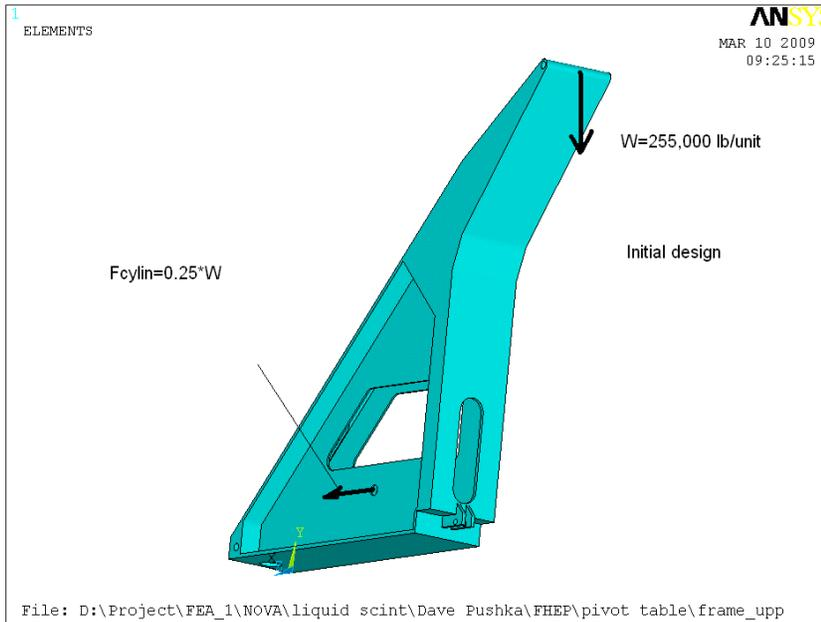
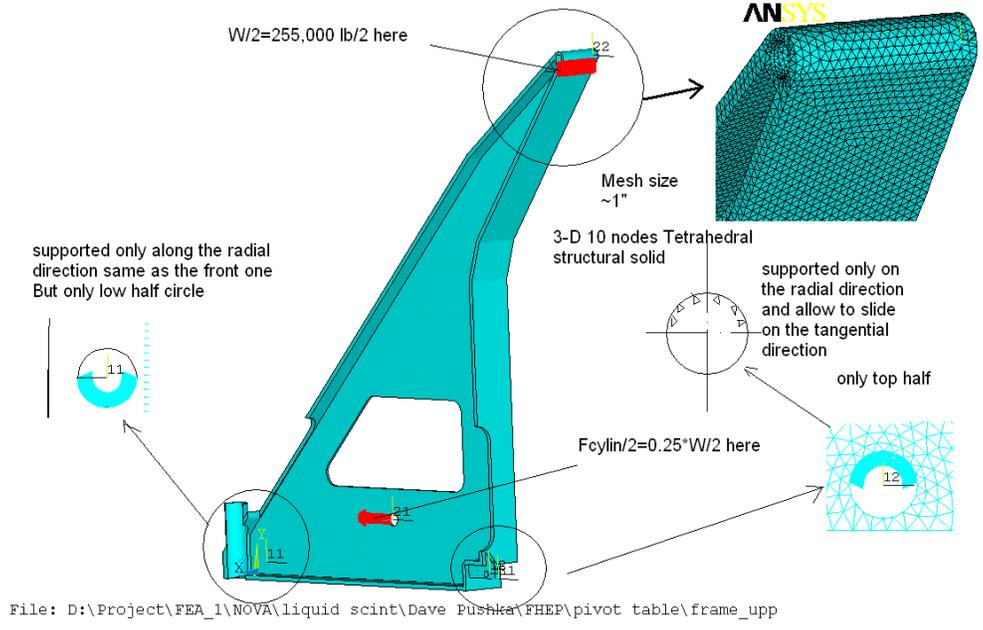

Fig 1 The upper arm Structure
Fig 2 FEA Model (half structure)
A steel upper arm, used for Nova pivot table assembly, is designed by D. Pushka as shown in Fig 1. The structure is made of A-36 steel with an allowable of ~24 ksi. This analysis is to determine the stress under a full size PVC block.
A solid model (Fig 1) of the structure is created by D. Pushka through IDEAS and then imported into the ANSYS (Para solid format). The analysis is done by ANSYS. Fig 2 is a ANSYS FEA model with a half structure due to the symmetry with the following conditions:
- The constraints, for both front and back housing, are shown in Fig 2. For the front one, top half is constrained along the radial direction only with free rotation along the tangential direction. The back housing is constrained in a similar fashion, except it is on the lower half.